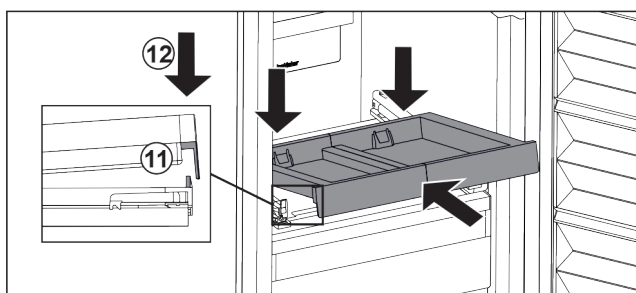

Fig. 195
- Slide in at an angle. Make sure that the stop is behind the lug on both sides. Fig. 195 (11)
- Lower the pull-out board at the front. Fig. 195 (12)